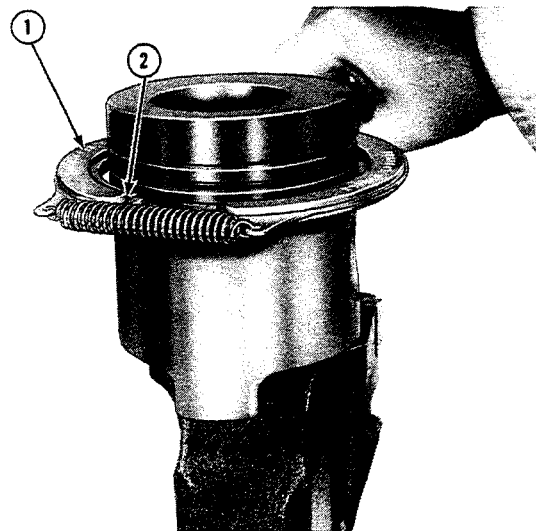

Figure 42
6. Remove the piston rings from the pistons with a piston ring expander or other suitable means. See Figure 42.